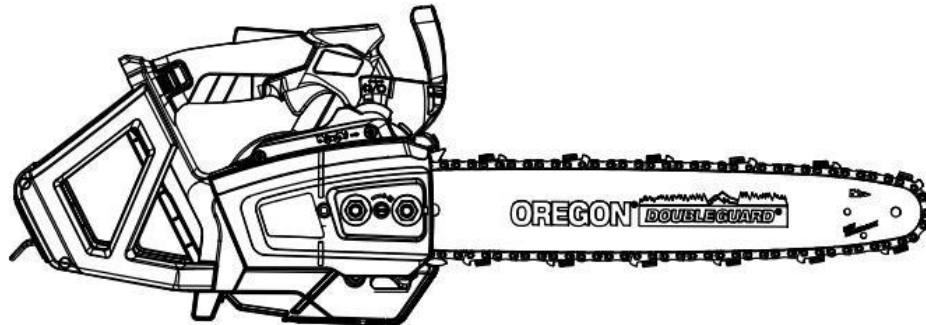

Fig 10
7. Pull the chain around the guide bar by hand. Loosen the adjustment if you feel tight spots (Fig 10).